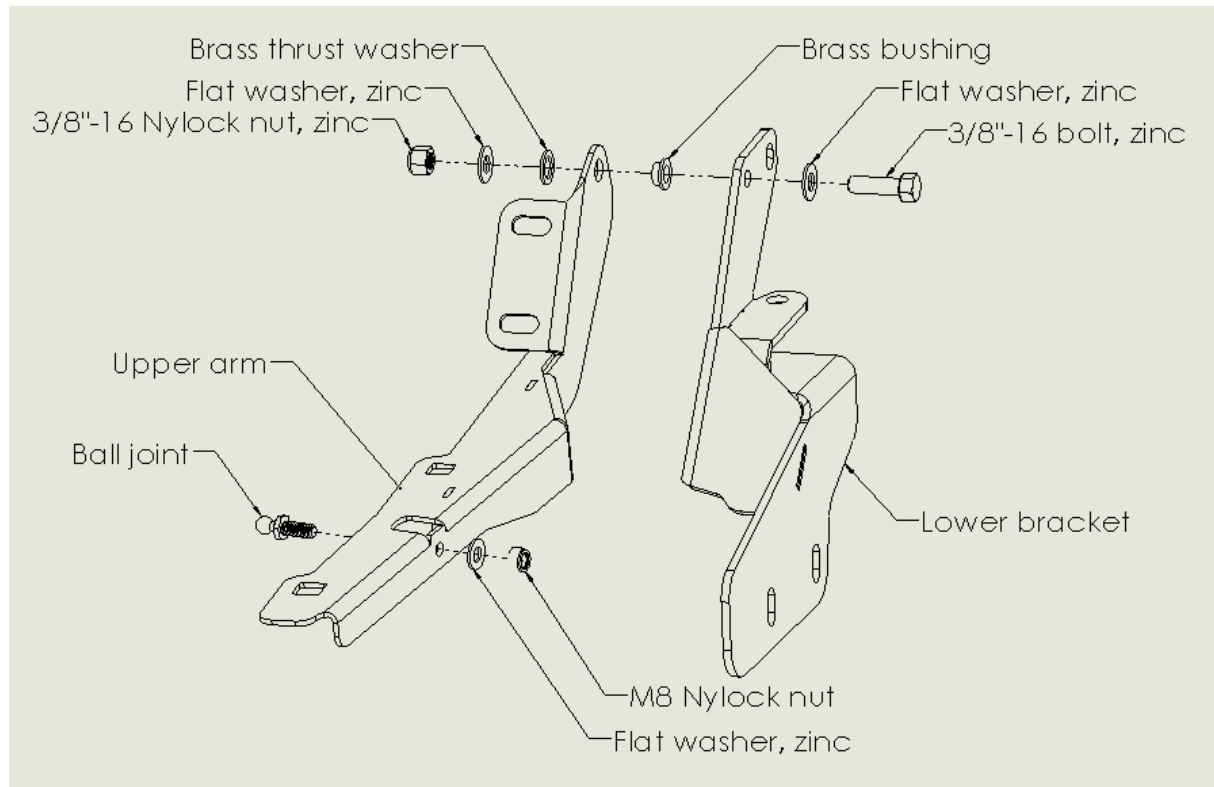

Fig 9
- f. Press install the brass bushing into the upper hole in the Upper arm as shown in **Fig 9**.
- g. Insert the 3/8"-16 bolt with washer and thrust washer into the brass bushing as shown in **Fig 9** forming the upper arm sub assembly.